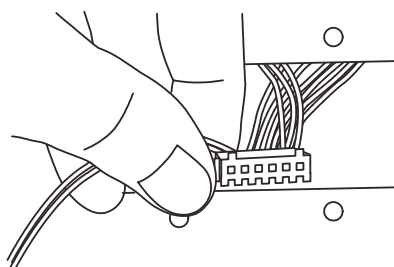

Fig. 2
2. Remove the recorder sensor cover (2 screws) of the inside (the right back front) of the freezer. (Fig. 2)
5. Fix a recorder sensor cover with 2 screws. (Fig. 2)
2. Provide an interface board (MTR-480) code from the fitting hole. (Fig. 2)